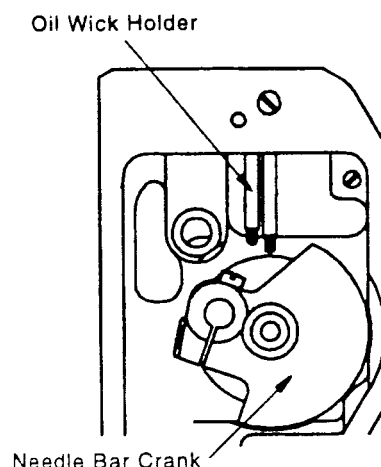

Fig.31
11. Turn the needle bar crank until it is in the position shown in Fig. 31 to prevent crank from disturbing the two oil wick loops in oil wick holder during removal of arm shaft.
12. While maintaining needle bar crank in position shown in Fig. 31, hold arm shaft and upright arm shaft bevel gears in mesh by holding the blade of a large screwdriver between thrust collar and bevel gear, then push the end of the arm shaft through arm shaft bushing (back) toward face plate end of machine.
2. Make certain that the needle bar crank is turned to the position shown in Fig. 31, clearing the two wick loops in oil wick holder.